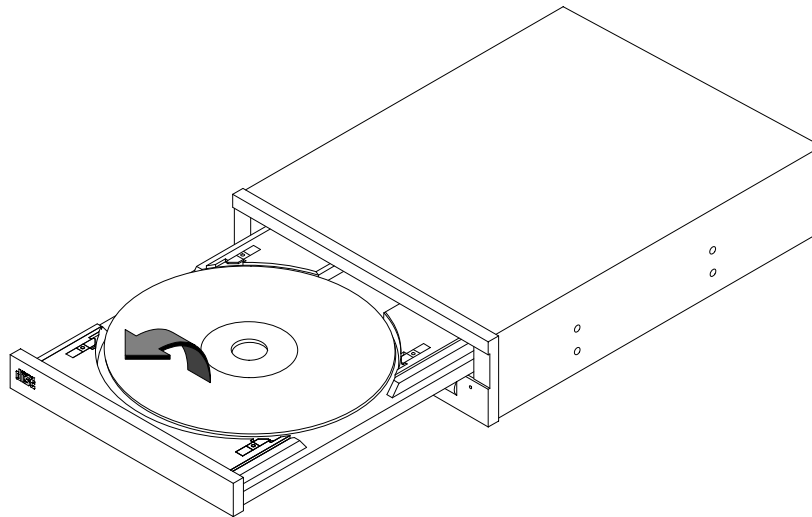

Figure 2–4. Removing the CD-ROM Disc From the Disc Tray (Horizontal Mount)
2. Wait until the drive has fully ejected the disc tray, then remove the disc from the tray as shown in Figure 2–4. Be careful to touch only the edges of the disc.